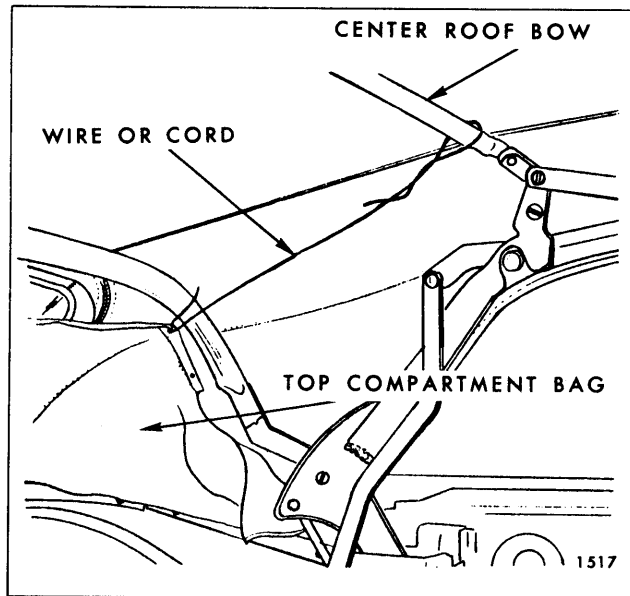

Fig. 13-29—Top Compartment Bag Tied to Center Rail
16. Detach folding top compartment bag from rear seat back panel, thus exposing rear quarter and rear trim stick attaching bolts. Forward end of top compartment bag may be tied or wired to center roof bow to provide ready access to attaching bolts (Fig. 13-29).